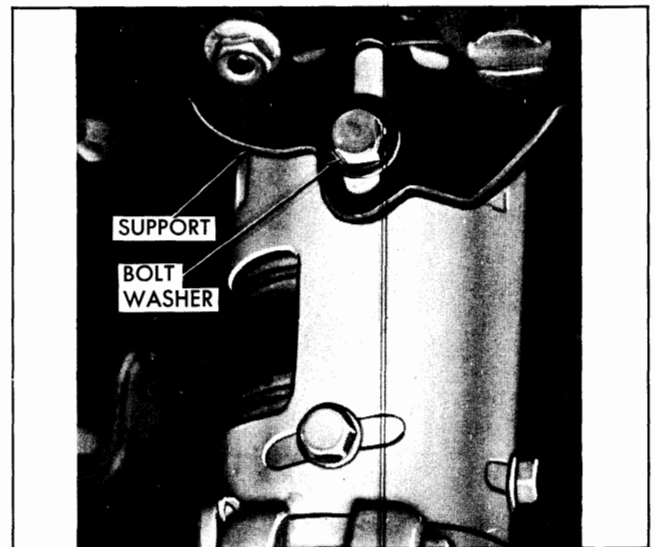

Fig. 9-13 Location of Nut and Washer
2. Remove bolt and washer from bottom steering column support (Fig. 9-13).